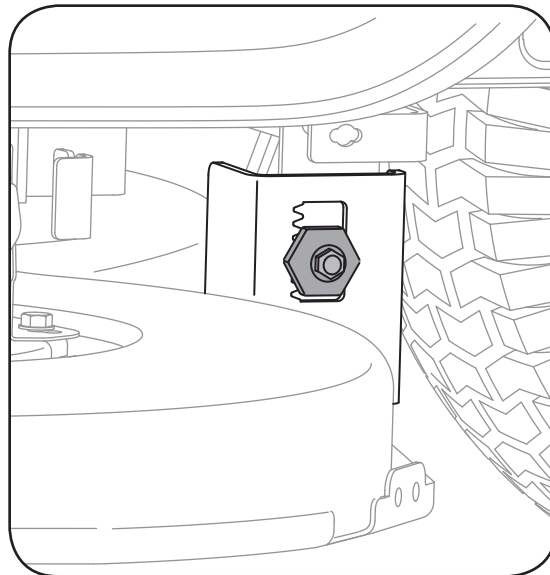

Figure 11
3. Loosen, but do NOT remove, the hex cap screw on the left deck hanger bracket. See Figure 11.